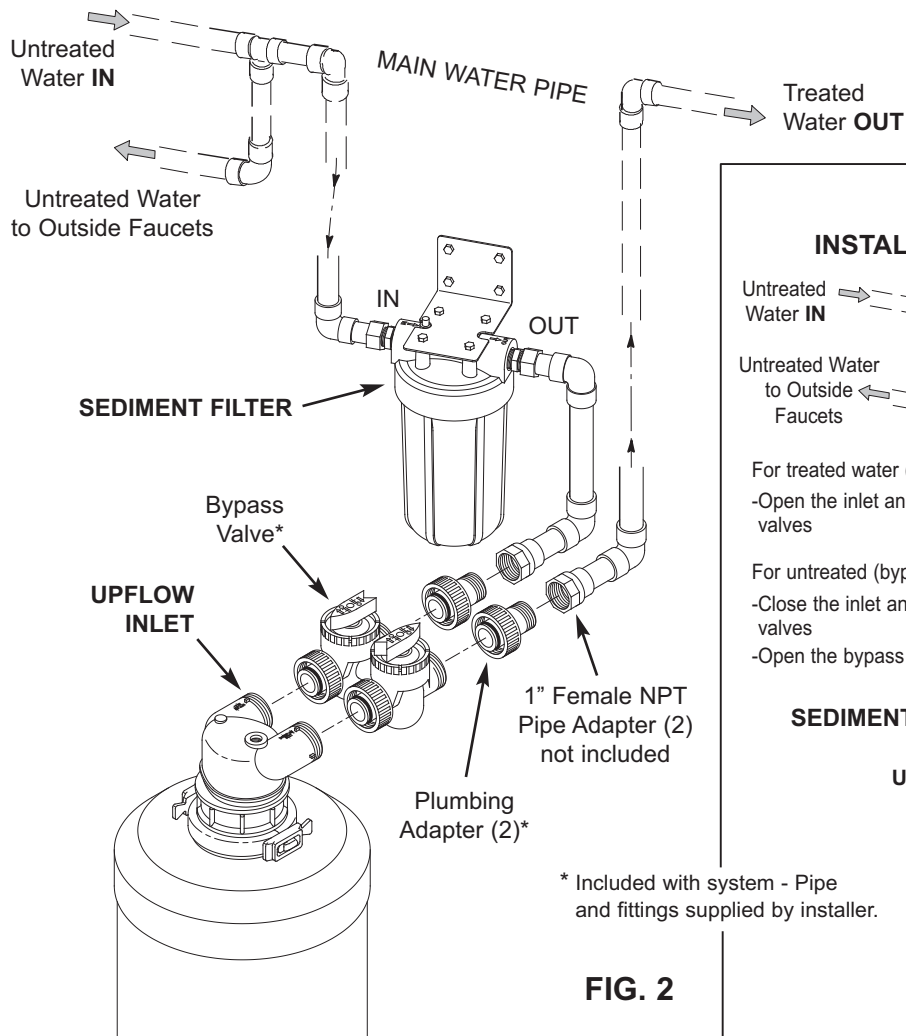

FIG. 2
- If installing a single bypass valve, thread the bypass valve, with lubricated o-ring seals in place, onto the head inlet and outlet ports (See Figs. 2 & 5). Tighten the collars by hand for a leak-tight seal.